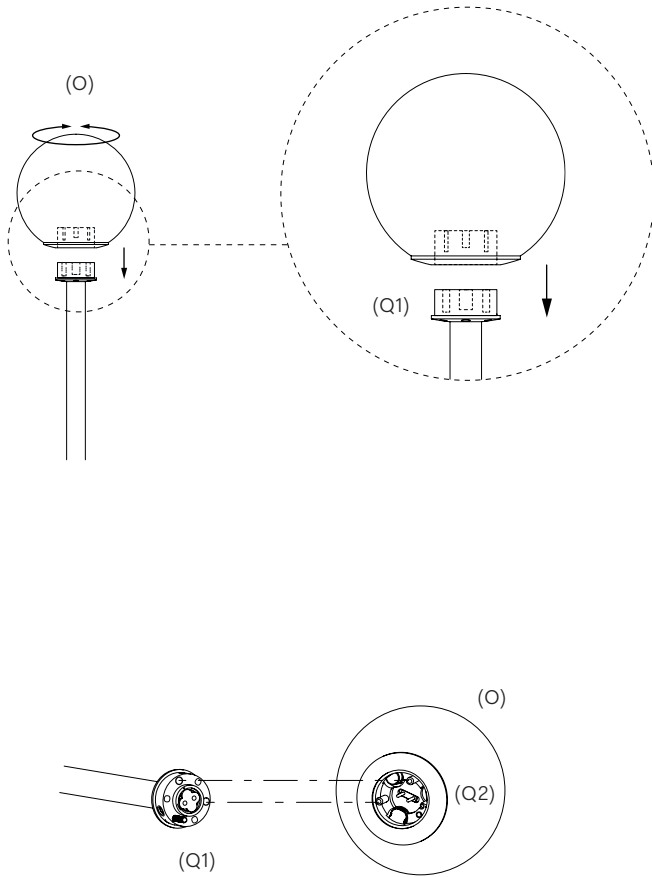

Fig. 16
Again, on a soft surface, using gloves, secure the Small Glass Sphere 1 (O) onto the Lamp Body 2 (P). Carefully rotate the Small Glass Sphere 1 (O) onto the Small Male Glass Connector (Q1) until the internal location pins are aligned. Gently push the Small Glass Sphere 1 (O) onto the pins until the outside faces of the Small Female Glass Connector (Q2) and Small Male Glass Connector (Q1) sit flush. Secure the Small Glass Sphere 1 (O) with the supplied M2×8 screw, ensuring it is tight. See Fig. 15 and Fig. 16.